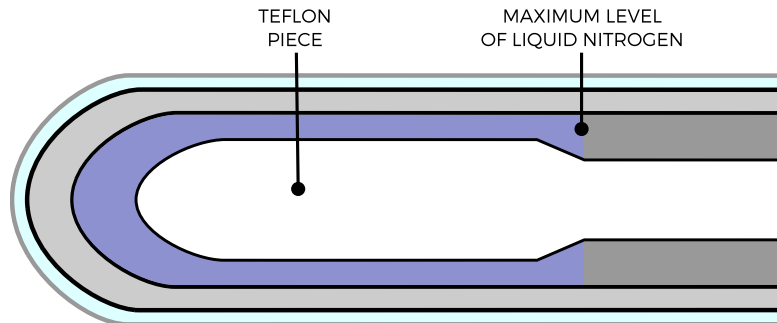

Figure 10: Maximal allowed level of the liquid nitrogen in the cryostat.
- Using the funnel fill **SLOWLY** the cryostat with liquid nitrogen up to the maximum allowed level. See Fig.10 for reference.